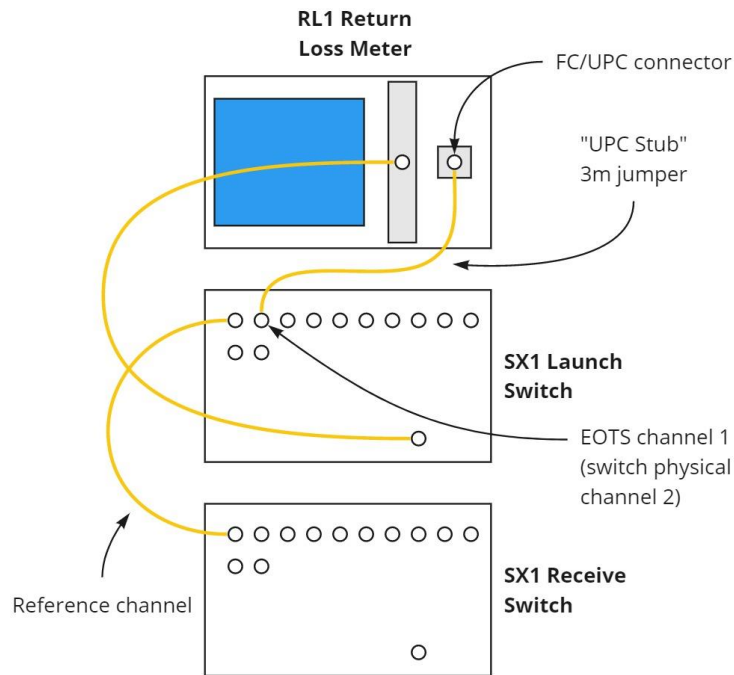
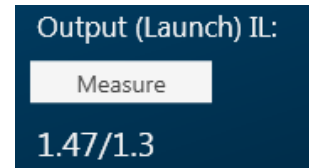

Figure 18: Direction 1 launch length reference and output IL connection diagram
Figure 19: Measure direction 1 output IL
- Inspect and connect a 3m jumper (“UPC stub”) from launch channel 1 to the detector (Figure 18) and measure the *Output (Launch) IL* (Figure 19, typical values are < 2 dB).